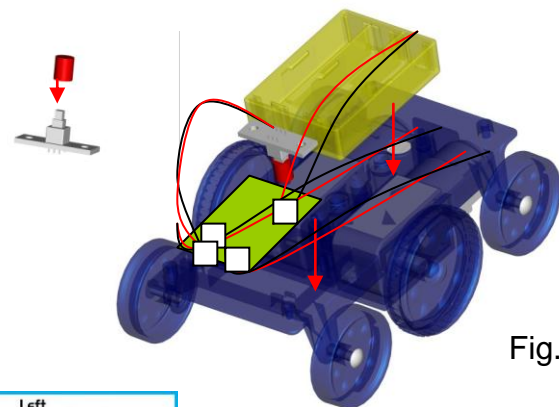

Fig. 10
8. Cover the switch (17) with the cap (18). Install the battery box (14), the switch (17) and the circuit board (16) on the chassis. See Fig. 10.